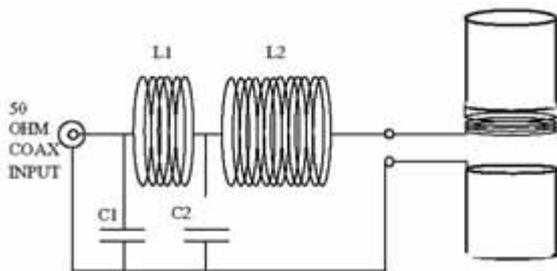

Figure 5 – A PREFERRED NETWORK TO FEED AN EH ANTENNA
A network that will handily provide this transformation is composed of an L network followed by a T network. If we choose to allow the L network to transform from 50 to 25 ohms, there will be a corresponding phase delay of 45 degrees. Therefore, that amount of phase delay can be subtracted from 179.5 to give 134.5 degrees, the necessary design value for the T network. With that information, you can go to the web site of Dr. Grant Bingaman (www.qsl.net/km5kg) and it will readily allow you to use a program to determine the component values of the network. By the way, if you do any experimenting, this program is a must. Another program written by Jack will be found in the tools section of this web site. A schematic of the network is shown in Figure 5. A T network is comprised of two coils and the L network has one. We have combined the input coil of the T network with the L network coil, thus the overall network has been reduced to two coils. For most implementations, I use a single coil with taps, except I place part of L2 between the dipole elements. There are two (2) reasons for this. First, if the feed wires going to the dipole are phased properly to cause the antenna to radiate, there will be radiation from the feed wires. A few turns at the antenna will cause a phase difference in the feed wires and prevent radiation from them. Secondly, there is a concern of high voltage, and this is reduced on the feed wires going to the antenna by the use of a coil as shown.